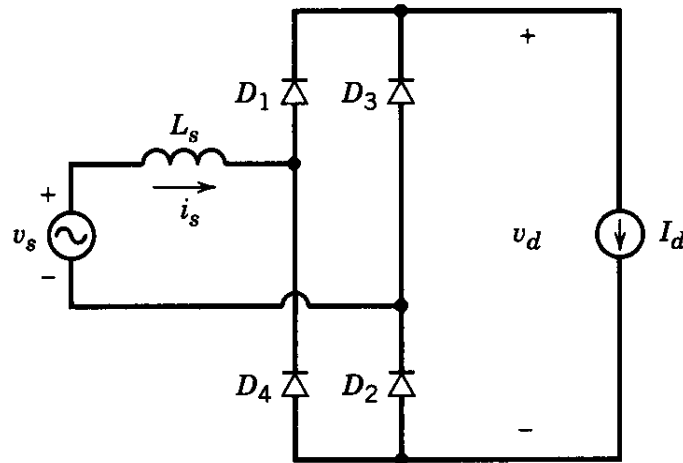
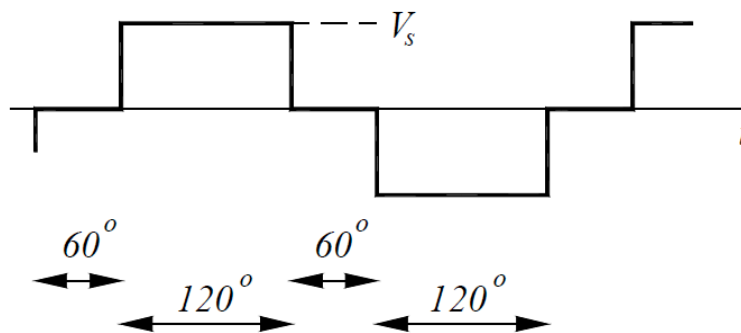

Figure 1a.
Figure 1b. Input voltage v_s
1. In the single-phase rectifier shown below in Fig 1a., $L_s = 1\text{mH}$ and $I_d = 10\text{A}$. The input voltage v_s has the pulse waveform shown in Fig 1b with the amplitude of 200V at 50Hz.
- (10) Sketch the waveform of voltage v_d and calculate the commutation interval u ,